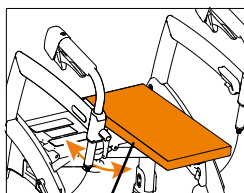

Figure 3A
- Turn the seat cushion around 90 degrees sideways as in Figure 3A.